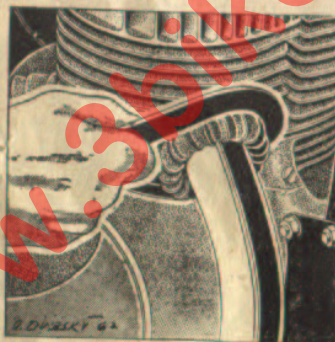

Fig. 39 - Disconnecting the exhaust pipe - 350 c. c.
b) 350 c. c. engine: Unscrew the two front screw fastening the fuel tank (on both R. H. and L. H. side of the steering head - use spanner 14 mm), disconnect the exhaust pipe (Fig. 39), sparking plug lead, unscrew the three nuts fastening the cylinder head to the cylinder barrel and remove the cylinder head. Bring the piston to the B. D. C. position, lift the front part of the fuel tank and remove carefully the cylinder barrel (take care not to damage the cylinder barrel gasket). Assemble in the reverse order and proceed in the same manner as at the model 250 c. c. Remove each cylinder barrel and cylinder head separately.